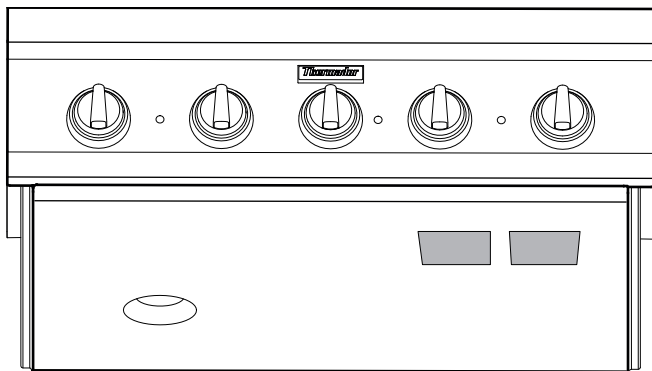

Figure 14: Data Rating Plate
- \_\_\_ Write the model number and serial numbers (see *Figure 14*) in the Use and Care Guide. Leave the USE AND CARE GUIDE and INSTALLATION INSTRUCTIONS with the owner of the appliance.